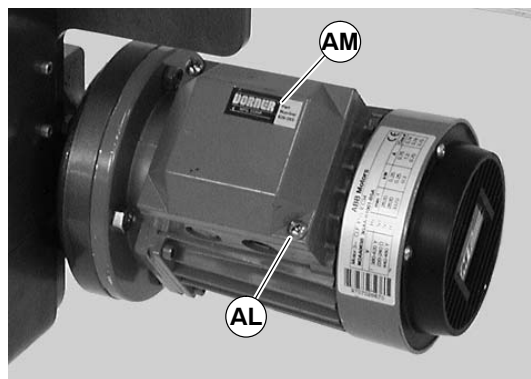

Figure 21
- a. Loosen terminal box screws (AL of Figure 21) and remove cover (AM).